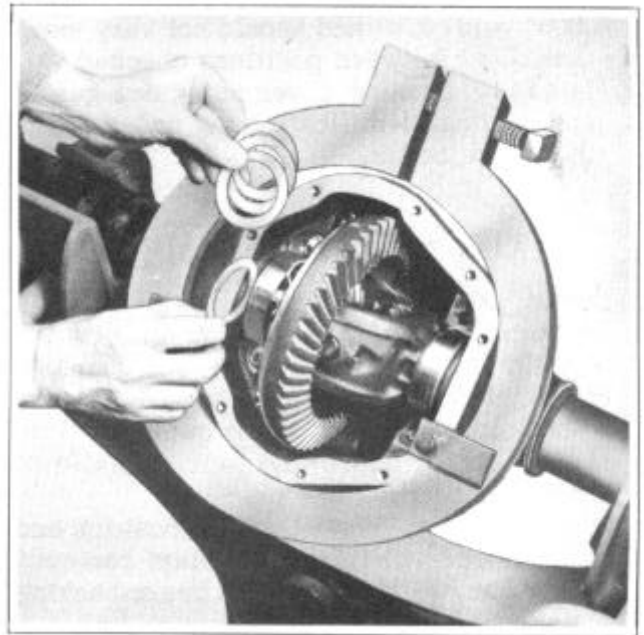

FIGURE 51
29. From shim requirements shown by indicator reading (paragraph 8), place shims between bearing cups and housing, forcing them in on both sides so as to use total amount and have gear rotate with no backlash, Figure 51.